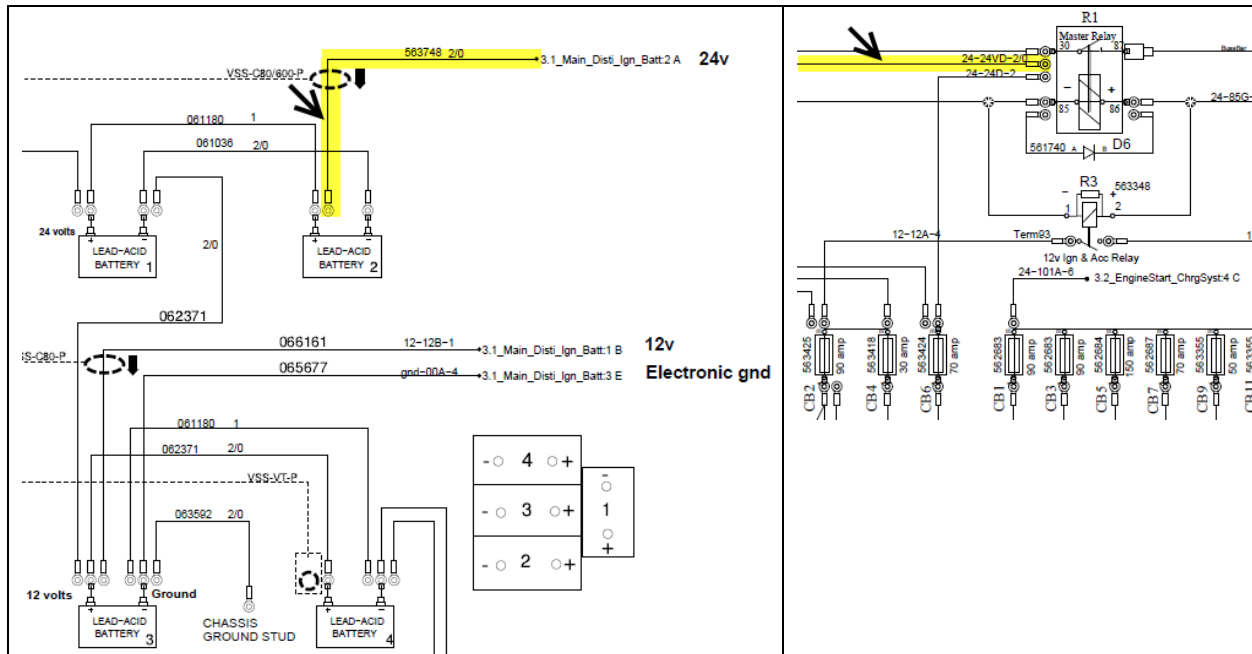

Figure 7
- In the **battery compartment** between **battery no2 and master relay R1** (Figure 7).